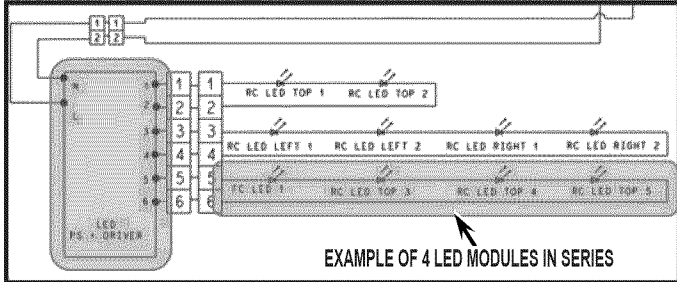

FIGURE 1
**NOTE:** The LED lights in each compartment are wired in series, so if one LED module fails, all of the LED modules in the series will turn off. *Figure 1* is for reference only, to show a circuit in series. The circuit on the refrigerator you are working on may vary, always refer to the Tech Sheet supplied with the product, if necessary.